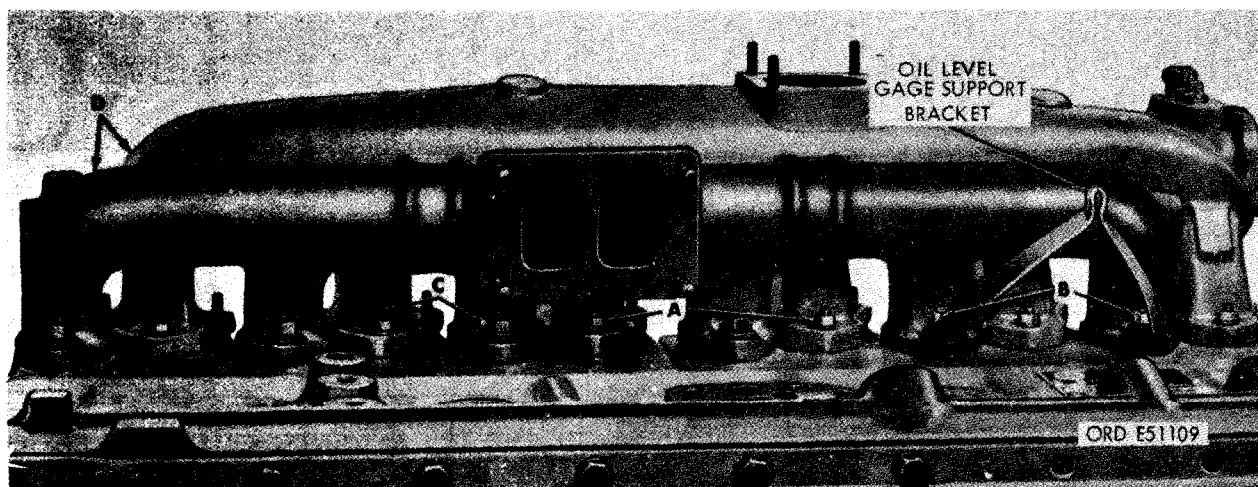

FIGURE 267. REMOVING OR INSTALLING INTAKE AND EXHAUST MANIFOLDS AS A UNIT.
- (3) Figure 267. (A) Remove six 5/16-inch plain nuts and 5/16-inch flat washers securing bottom flanges of intake manifold to cylinder head assemblies. (B) Remove two 7/16-inch self-locking nuts and remove oil level gage rod support clamp brackets. (C) Remove four 7/16-inch self-locking nuts and 7/16-inch flat washers securing bottom flanges of exhaust manifold to cylinder head assemblies. (D) Remove intake and exhaust manifolds.